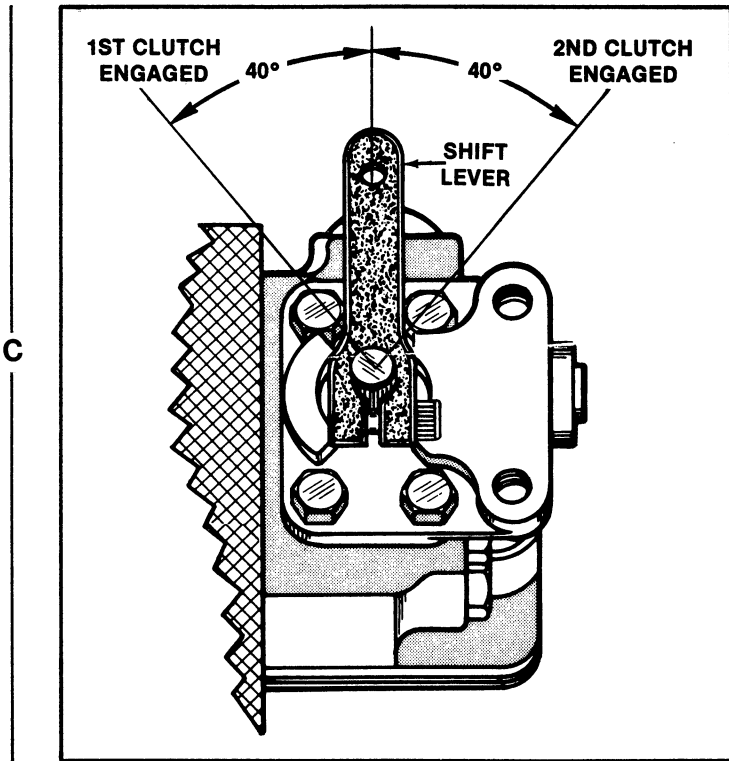

Figure 8-1. Mounting Position for Shift Lever.
1. Install two thrust washers (19) with needle thrust bearing (22) in between them.
2. Install valve stem (17) into valve body (30).
3. Index the recess in the valve stem with the detent hole in the valve body, and install detent (26), detent spring (27), O-ring (28), and O-ring plug (29).
4. Install oil seal (21) into valve cover (24), with lip toward the control lever. Install O-ring (20).
5. Install gasket (25) and valve cover (24). Secure with capscrews (34). Torque the screws 15 ± 2 lb. ft.
6. Install stop collar (32) and roll pin (23).
7. Place the valve on a working surface, bottom side down. Install shift lever (33) so that the lever is parallel with the working surface when the valve is in the neutral position. Note movement of lever when properly positioned in Figure 8-1.